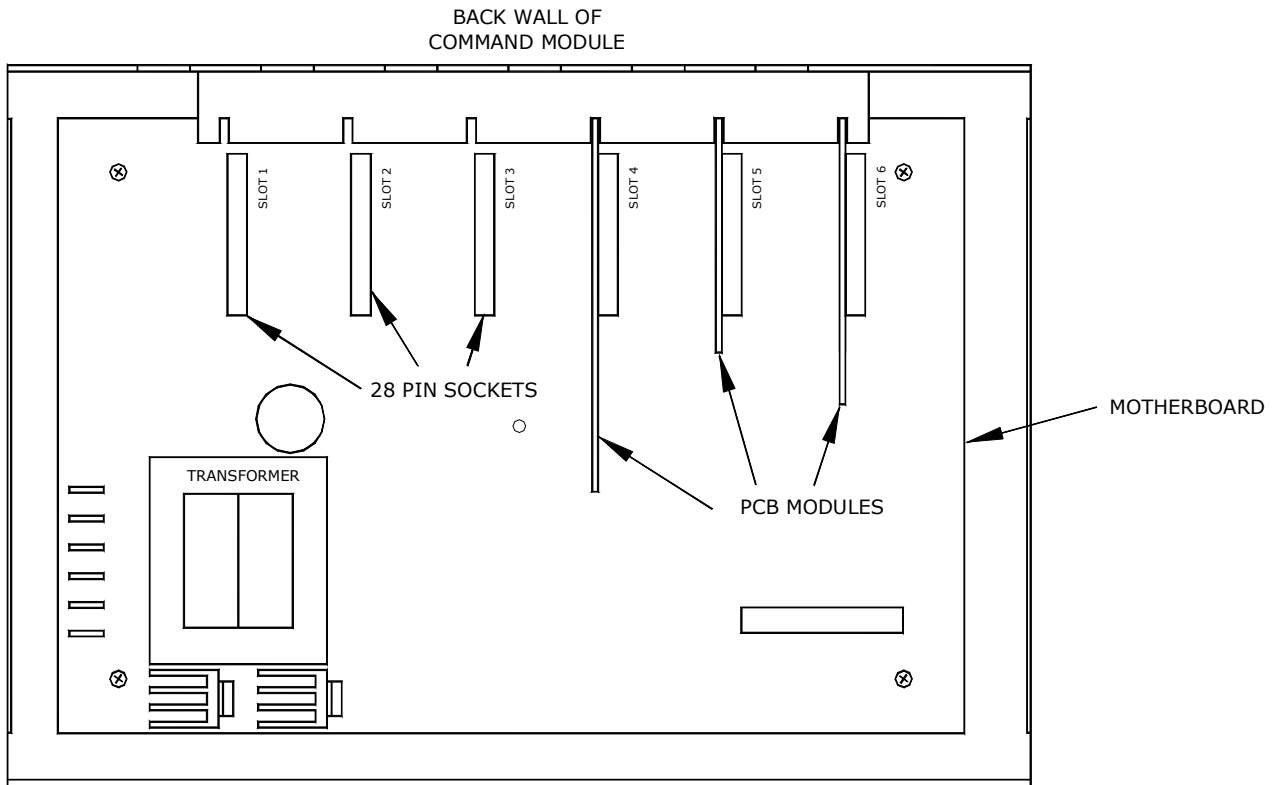

FIG.3 Command Module with top cover removed to install PCB Modules.
6. **BEFORE CONNECTING POWER** to the Command Module, install the CD Changer PCB Module, Moodlight PCB Module and Phone PCB Module in the slots on the motherboard in the (*options ordered will determine which boards you will be required to install*). Each module can be installed in any of the slots along the back wall of the motherboard as long as the PCB Module will fit. **VERY IMPORTANT:** All the pins of the PCB Modules **MUST** line up properly with every socket on the motherboard slot or the system will be **DAMAGED** (see **FIG. 3**).